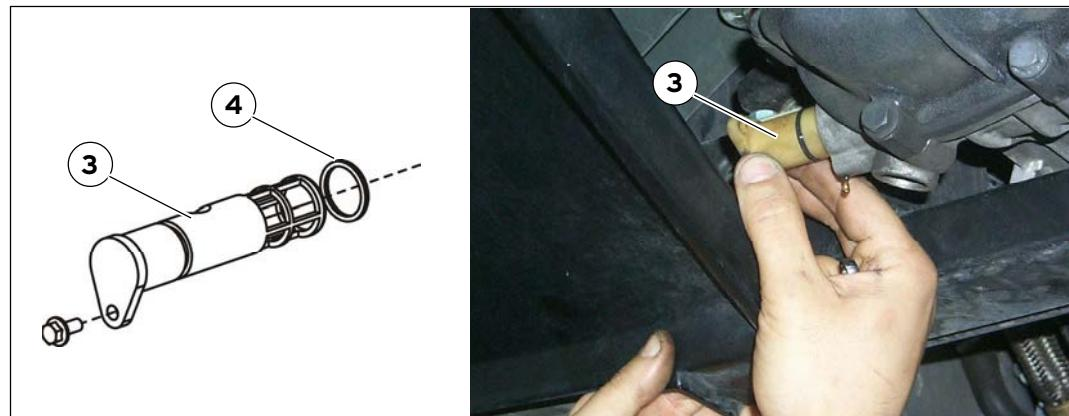

Fig. 2 Gearbox oil filter removal
- Keep the bumper rim bent downwards and remove the oil filter (3, Fig. 2) from the gearbox.
- Install a new seal on the filter (4, Fig. 2).